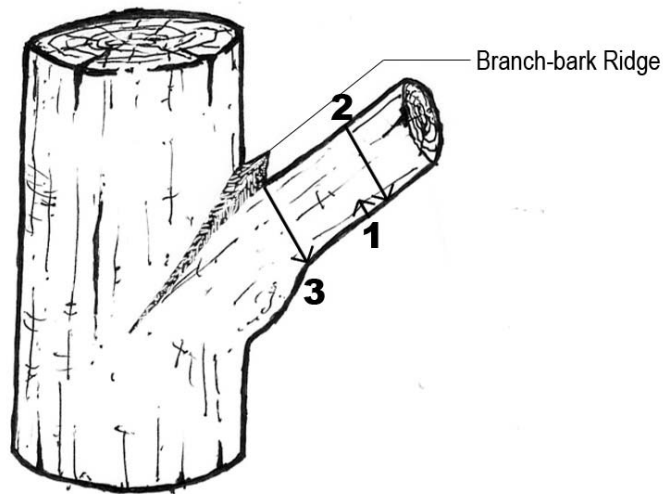

Figure 2.
- Make pruning cuts using the *three-cut method* for heavy branches (larger than three inches) to avoid damaging remaining bark. Avoid stub cuts, flush cuts, and wounds to remaining limbs and *trunk*. **See Figure 2.**